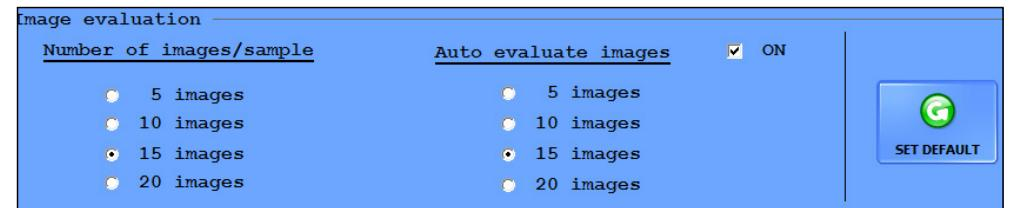

Figure 21: The Image evaluation window
- Click the **SET DEFAULT** button to revert to the default settings of 15 view field images per sample, all of which are automatically evaluated (see Figure 21).